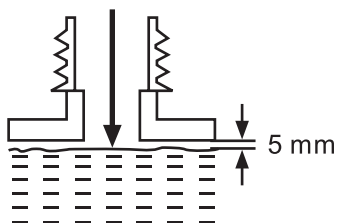

Fig. 8
- > Unscrew and remove the fuel tank cap (12).
- > Fill correctly mixed fuel/oil into the tank using a fuel funnel fitted with a filter to avoid debris entering the tank. Do not overfill. Leave a minimum 5 mm of space between the top of the fuel and the inside edge of the tank (11) to allow for expansion (Fig. 8).